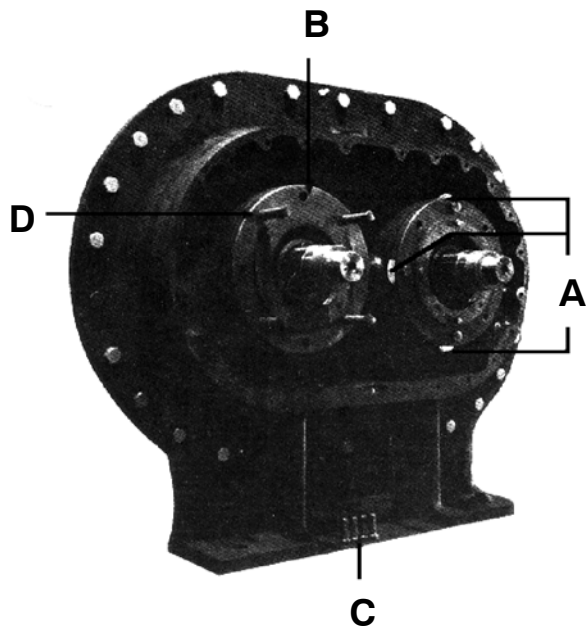

FIGURE 15 - BEARING CARTRIDGE REMOVAL
Refer to FIGURE 15. Shim spacers (A) added during production will now be exposed behind the bearing cartridge (B) on the gear end of the unit. The spacers were installed to assure accurate positioning of the impellers between the headplates; hence, it is important that they be returned to their exact positions on reassembly.
1. Loosen, but do not remove, the bearing cartridge attachment bolts (C) (FIGURE 15).
2. Insert the jack screws (D) and back out the bearing cartridge until the shim spacers are loose.